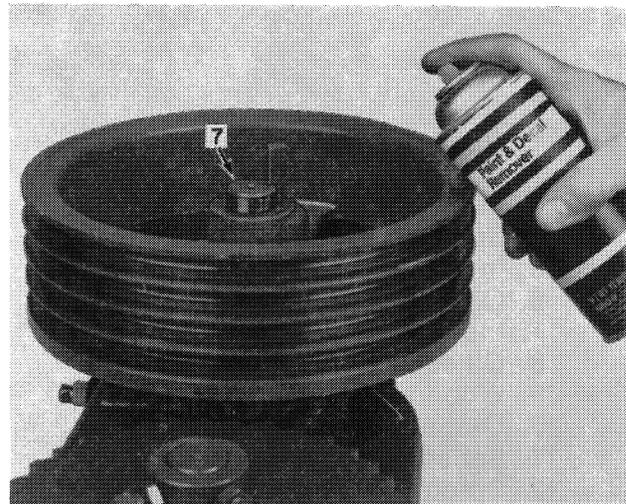

FIGURE 6
3. Use good quality paint remover to remove paint from the end of the input shaft, Figure 6. Remove rust or high spots from the end of the shaft with a file or emery paper.